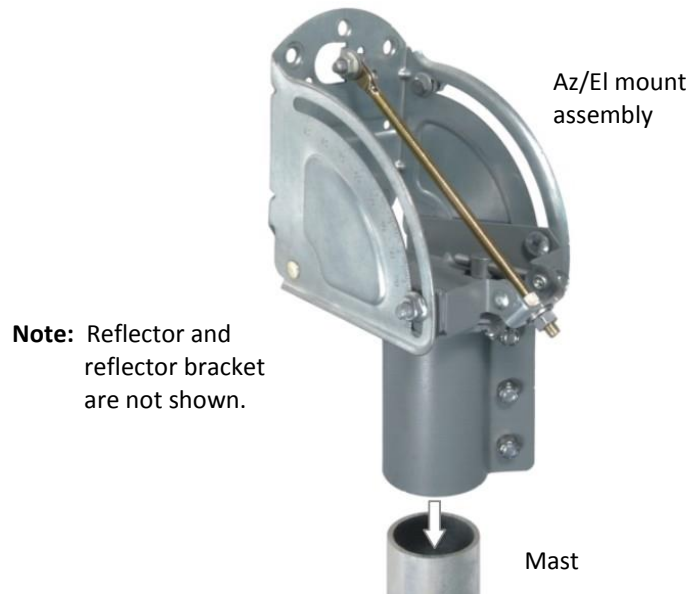

Figure 23: Installing the Az/EI mount assembly
2. Slide the Az/EI canister down onto the mast as shown in Figure 23 on page 41.